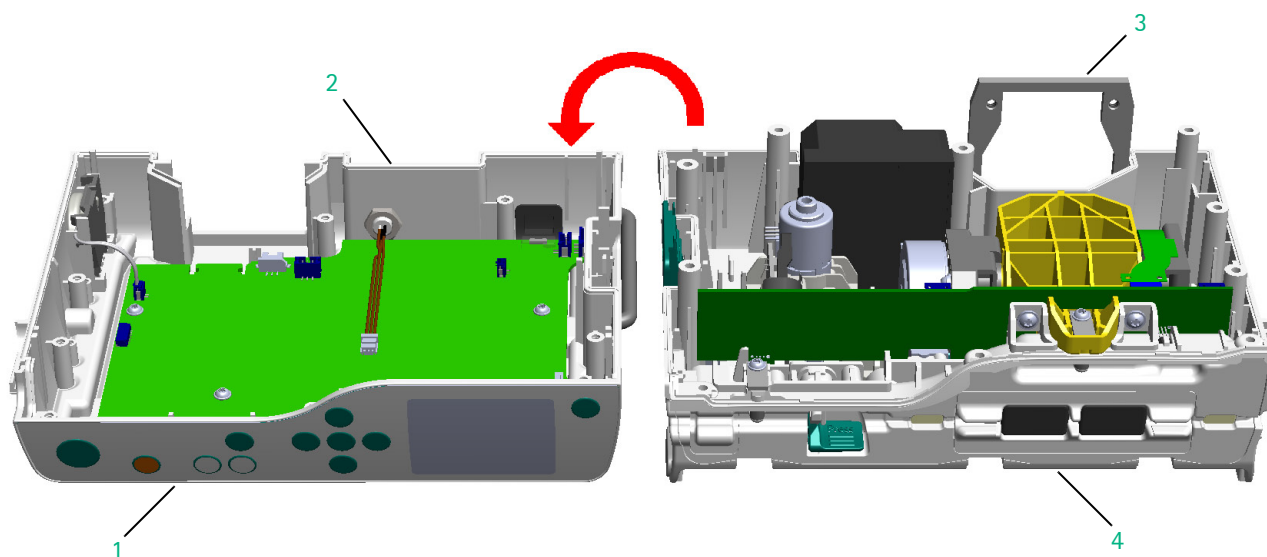

Fig. 3 - 14
2. Pierce the seven cover caps (Fig. 3 - 13 / Item 2) at the housing, bottom part with a small screwdriver or twist gimlet and remove them.
3. Unscrew the seven screws (Fig. 3 - 13 / Item 1) using a 10IP TORX plus screwdriver.